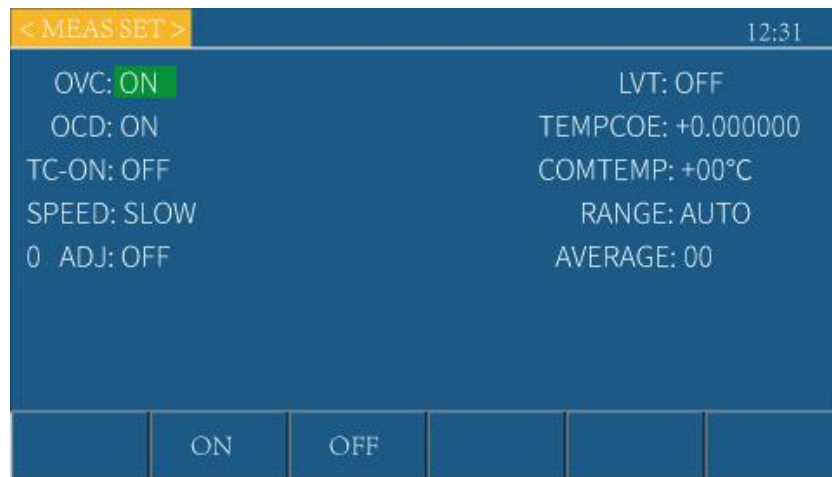

Figure 4-1 Measurement setting interface
- Or by pressing the **DISP** menu key on the right side of the screen, < Measurement setting > page will also be displayed on the screen. The test parameters of the device can be set in the measurement settings page as follows: < Potential compensation >, < Open circuit detection >, < Temp compensation >, < Measurement speed >, < Short circuit clear>, < Low voltage test >, < Temp coefficient >, < Compensation temp >, < Range setting >, < Average>, etc. As shown in Figure 4-1: